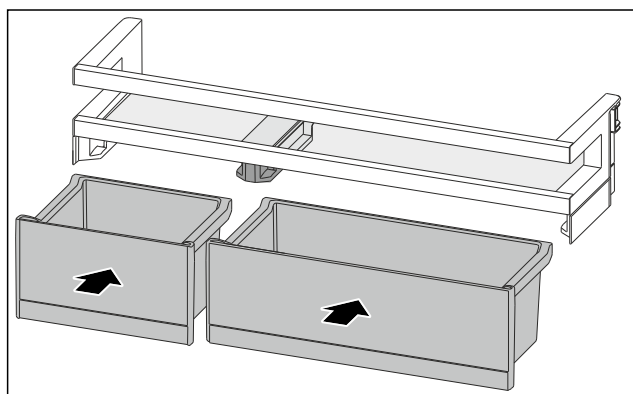

Fig. 190
- Insert the VarioBoxes in reverse order. (see Fig. 190)